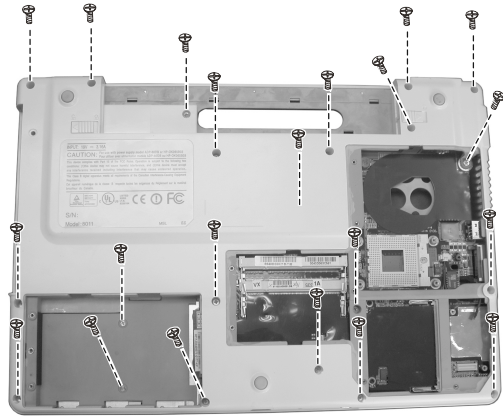

Figure 2-28 Free the housing
4. Remove the twenty-one screws fastening the housing, then free the housing. (Figure 2-28)